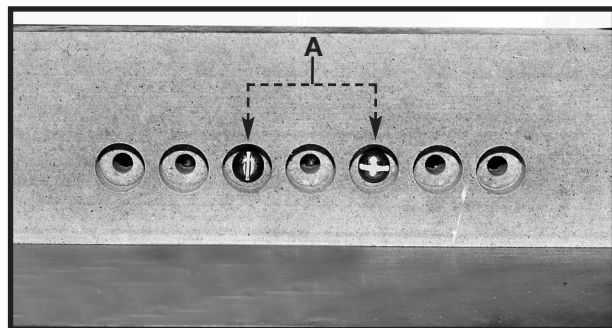

Fig. 29
To adjust the fence, loosen the screws (A) Fig. 29 from both fences. Move the fences to the required positions and tighten the screws (A). If necessary, remove the screws (A) and reposition them in different holes in the fence to get the required results.